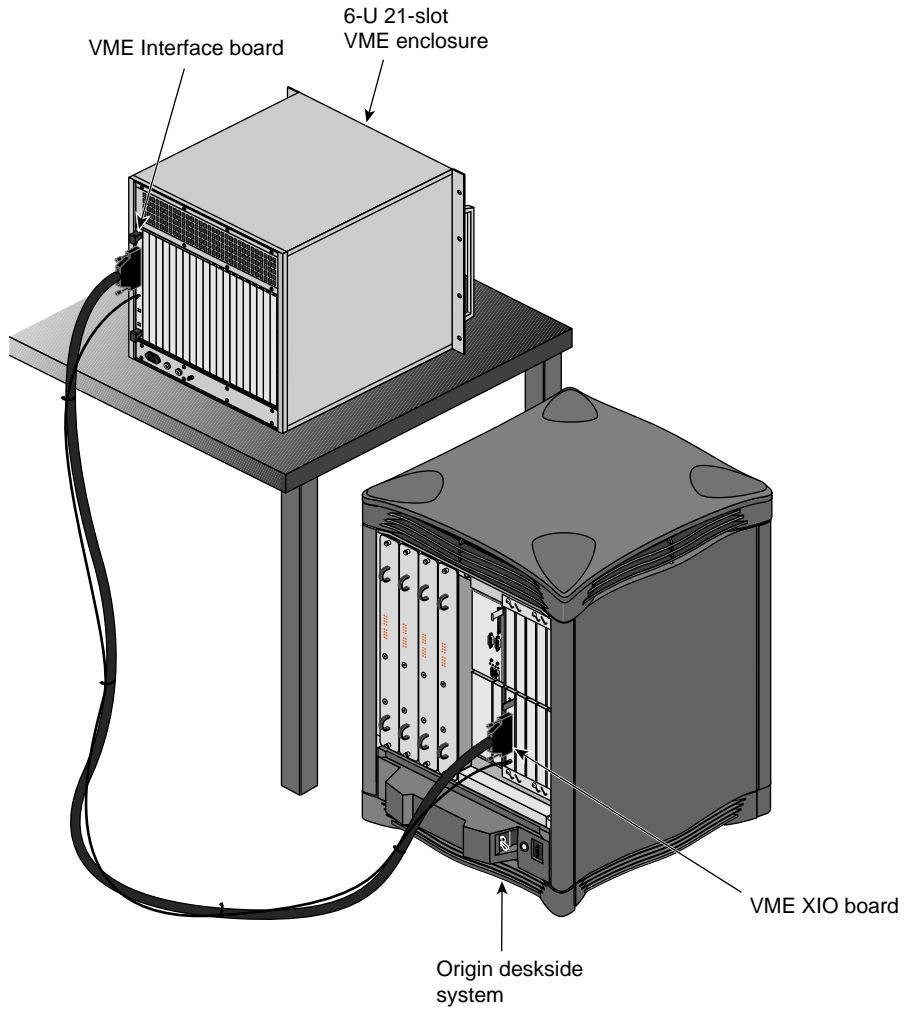

Figure 12-2 VME Bus Enclosure and Cable to an Origin 2000 Deskside
In the Origin 2000 (including Origin Deskside) and Onyx2 systems, external I/O is provided through the XIO interface. The VME bus and adapter is an external I/O device interfaced through one XIO slot. A typical installation is shown in Figure 12-2.
2. The XIO interface passes the word down the Craylink cable (see Figure 12-2) to the VME controller board, which is a VME 6U or 9U card mounted in the card cage.